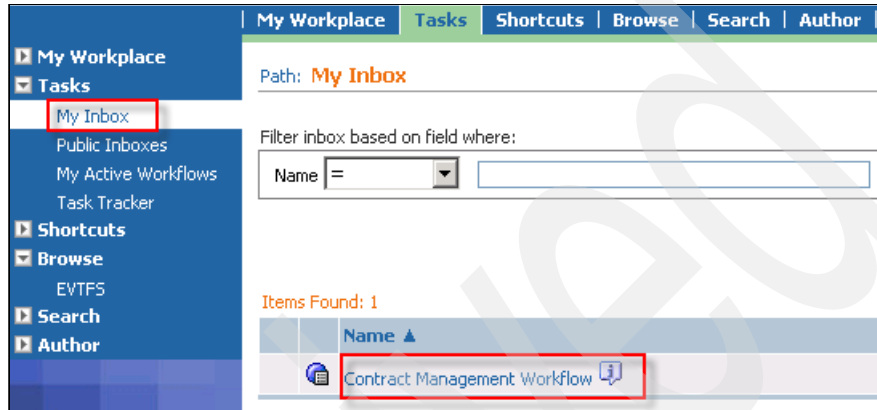

Figure 7-68 My Inbox panel
2. As shown in Figure 7-68, in the left pane, select **Tasks** → **My Inbox**, and in the right pane, click **Contract Management Workflow**.